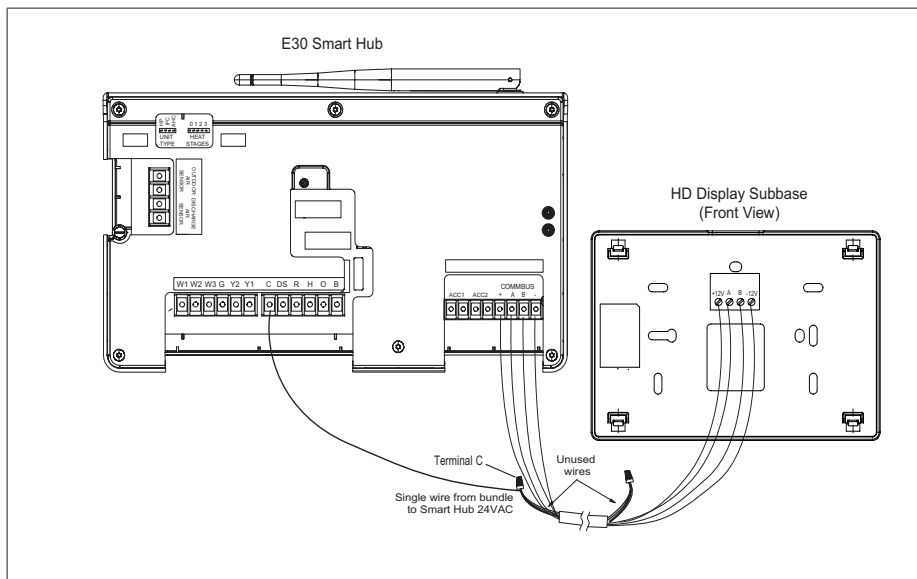

Figure 5. Thermostat Wiring - E30 Smart Hub to HD Display Subbase (Electrical Noise Termination Consideration)
- Use wire nuts to bundle the unused wires at each end of the cable. A single wire should then be connected to the indoor unit end of the wire bundle and attached to the "C" terminals as shown in "Figure 5. Thermostat Wiring - E30 Smart Hub to HD Display Subbase (Electrical Noise Termination Consideration)" on page 8.